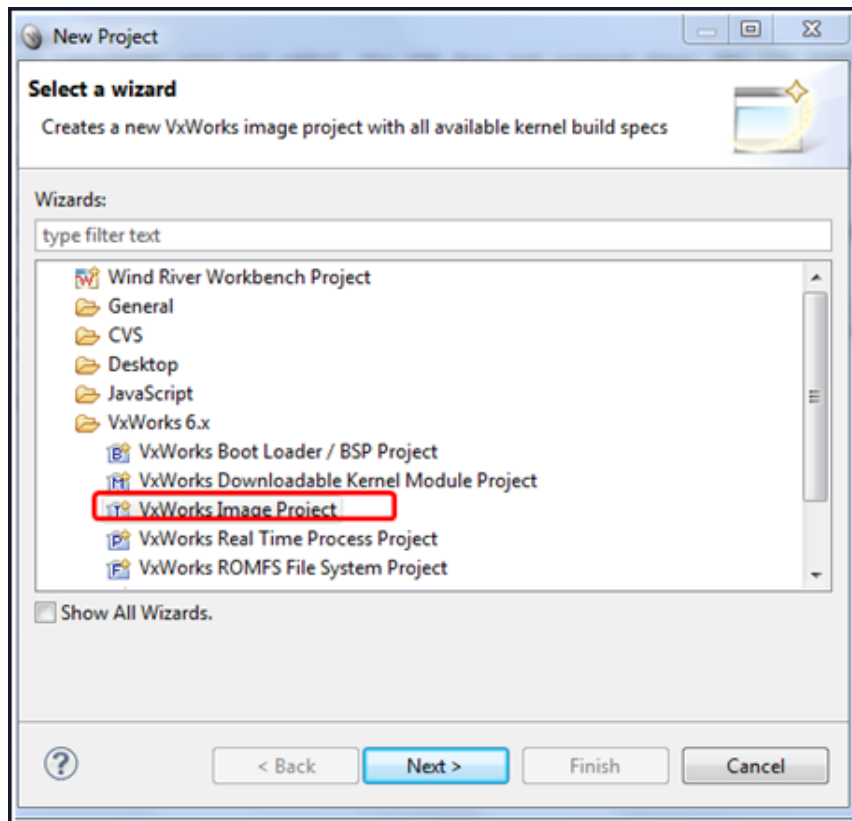

Figure 4: VxWorks Image Project
4. Under **VxWorks 6.x**, select the **VxWorks Image Project**, as shown in Figure 4.